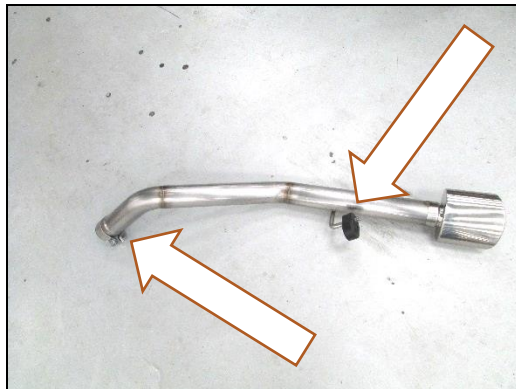

Figure 6
6. On the right side Blackheart tailpipe, install (x1) supplied rubber isolator and (x1) supplied band clamp (**Figure 6**).